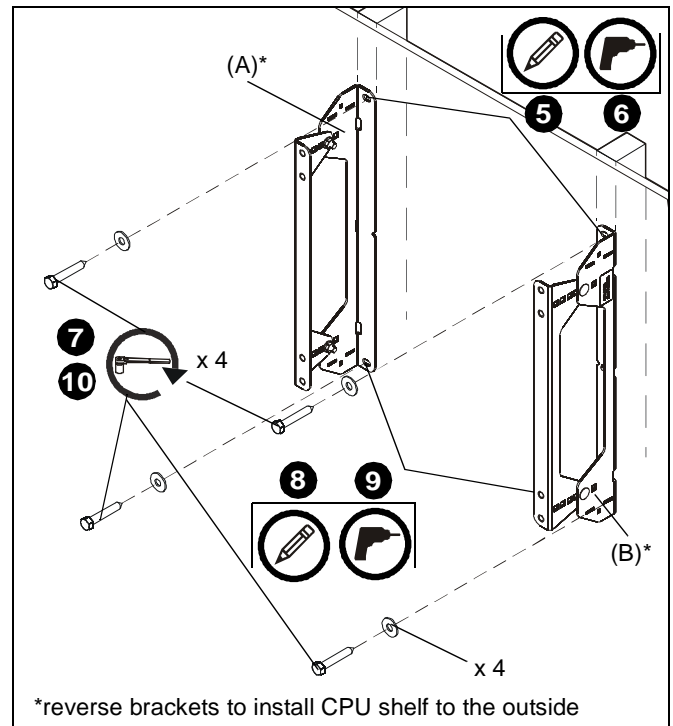

Figure 2
5. Using a level, mark the wall on each stud to attach the brackets through the upper mounting slots. (See Figure 2)
7. Use two 5/16 x 2-1/2" lag bolts and two 5/16" flat washers to attach top of brackets (A and B) to wall. (See Figure 2)
NOTE: If desired CPU location is off to the side of the display, reverse brackets (A and B) from how they are shown in Figure 2.
8. Mark the attachment points for the lower mounting slots, making sure the attachment points are located on the studs. (See Figure 2)
9. Drill 7/32" (5.5mm) pilot holes at markings for lower mounting holes. (See Figure 2)
10. Use two 5/16 x 2-1/2" lag bolts and two 5/16" flat washers to attach the mount to the wall through the lower mounting holes. (See Figure 2)